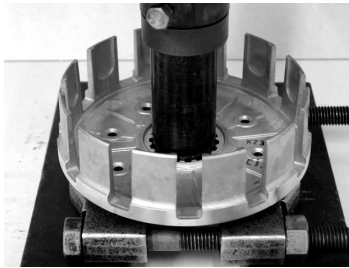

Figure 1
- Press the kickstarter gear out of the basket (see figure 1)